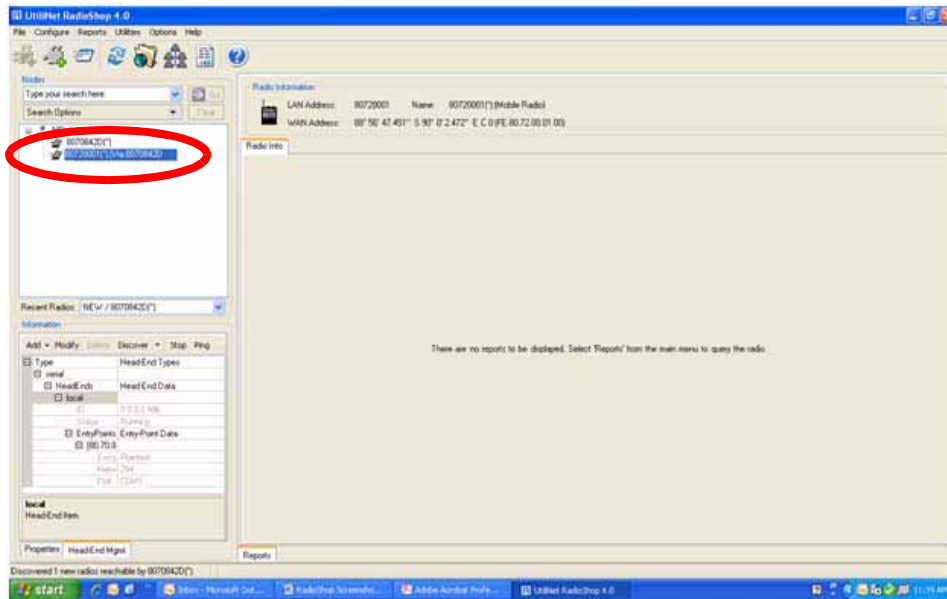

Figure 2 - 8. RMFM is added to Nodes Pane
5. Highlight the new UtiliNet SBR, Figure 2 - 8, and click **Reports > Configuration > Radio** to verify that you can communicate with the UtiliNet SBR